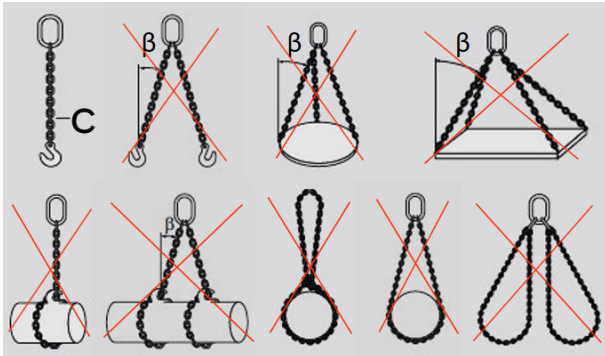

Figure 2: Lift Methods for Two Chain Slings
Adjust the chain slings to lift loads as shown in Figure 2.
- ▶ Use only the lift method (C) for chain slings as shown in Figure 2. Do not exceed the maximum tilt angle of 30°.